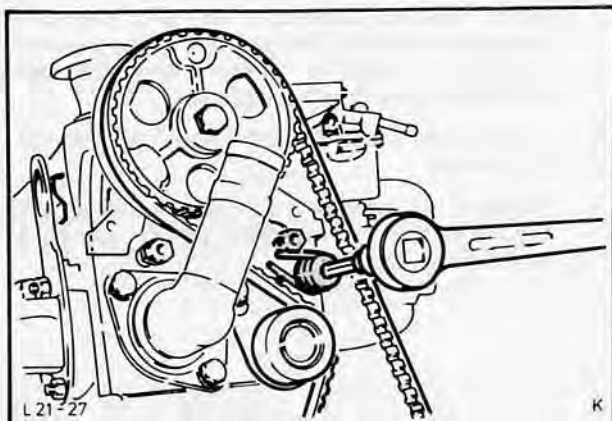

Fig. 78. Slacken toothed belt tensioner using Special Tool 21-012
9. Slacken toothed belt tensioner, using Special Tool 21-012 (1 bolt, 1 special bolt) press against spring pressure and retighten, Fig. 78.